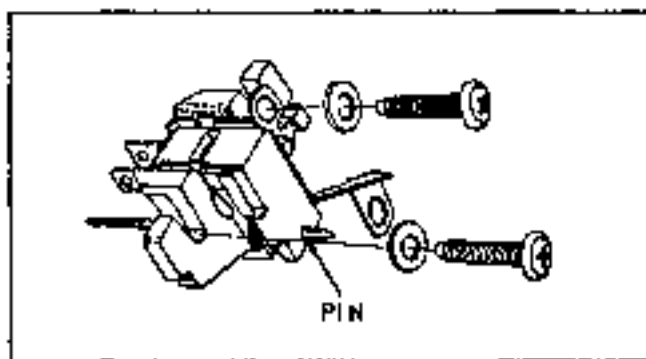

Fig. 6E-19 Brush Holder - Standard Generator
5. Ground the field winding by inserting a screwdriver into the test hole (Fig. 6E-21).
CAUTION: Grounding tab is within 3/4" of the casting surface (Fig. 6E-21). Do not force screwdriver deeper than 1" into end frame.